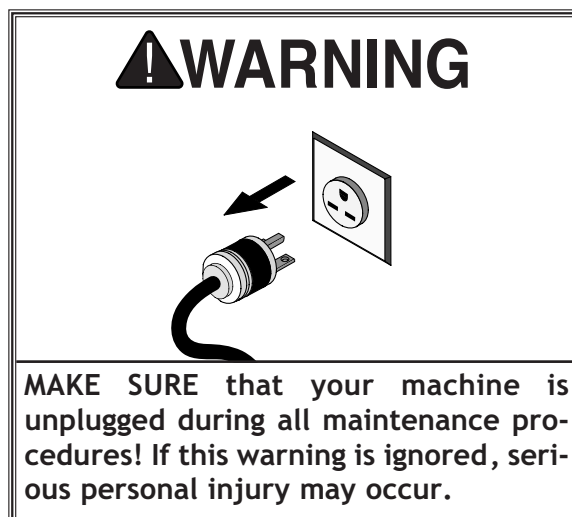

Figure 52. Aligning fence boards.
2. Make sure the fence boards are even with each other, then place the straightedge against both fence boards, as shown in **Figure 52**.